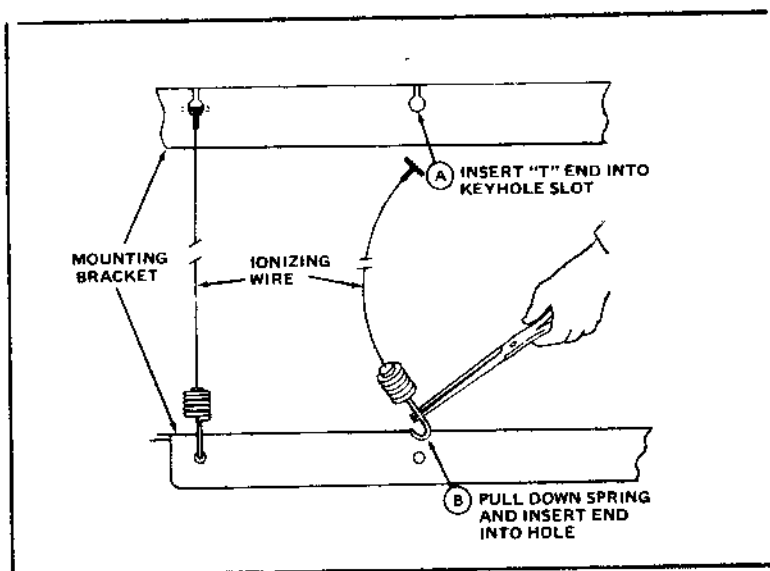

Figure 19. Replacing Ionizing Wires.
1. During removal and installation use care to avoid damaging the spring connector or other parts of the cell (See Figure 19).